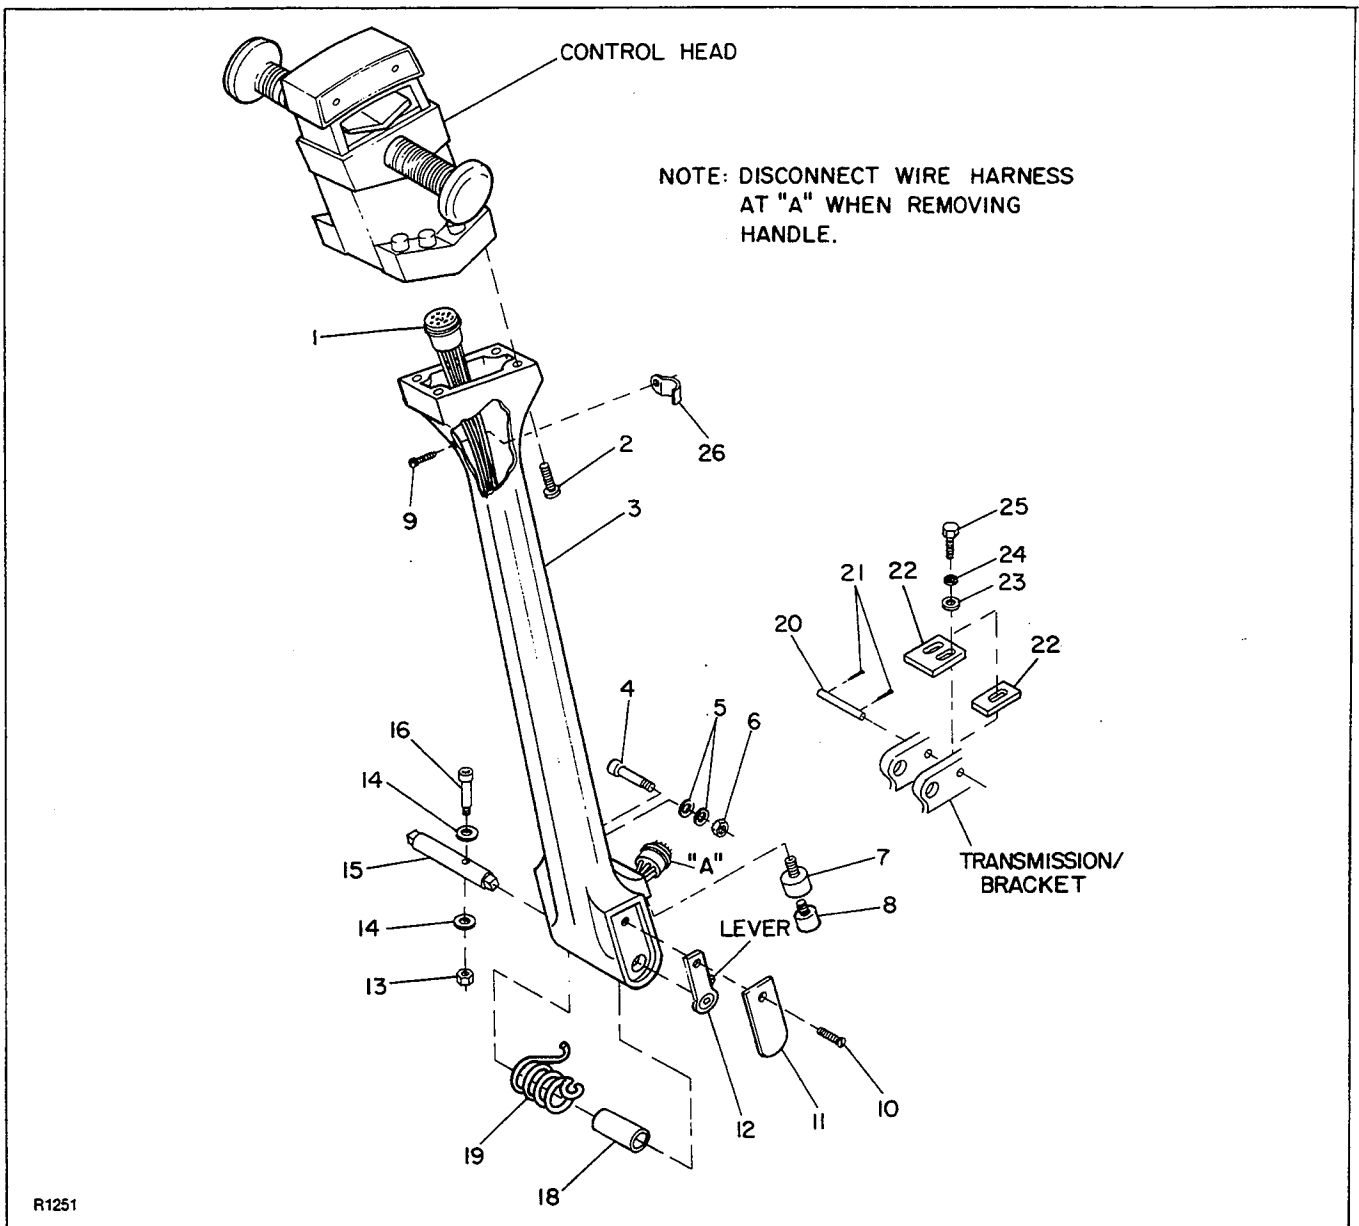

Figure 3-3. Steering Arm
3-9. Steering Arm. (Figure 3-3)
The tension on the steering arm return spring should allow the arm to return gently to its upright position. Excessive tension will cause the arm to snap up and may cause damage to the electrical cable, brake linkage, or the spring itself. If the steering arm does not return fully, check for binding in the brake linkage or wiring harness before making any adjustments. If they do not bind, refer to figure 3-3 and proceed as follows to adjust the steering arm return spring tension.
4. Remove screw (10, figure 3-3) and handle ratchet cover (11).
5. Fit a 1/2-inch wrench (socket-type preferred) on the exposed left end of the handle shaft (15).
To avoid unnecessary strains on the brake linkage, the adjustment stop (22, figure 3-3) should halt steering arm downward movement. The adjustment stop can be moved back and forth, and set to absorb the shock of steering arm over-travel.